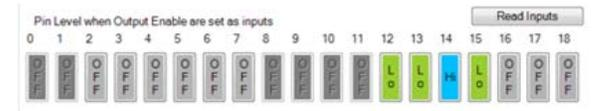

Figure 198. Setting GPIO Inputs to Logic High or Logic Low
- Read the logic level for the GPIO input only pins in the **Pin Level when Output Enable are set as inputs** section. Click **Read Inputs** to populate the logic levels for the inputs, high (Hi), low (Lo), or off (OFF) (see Figure 198).